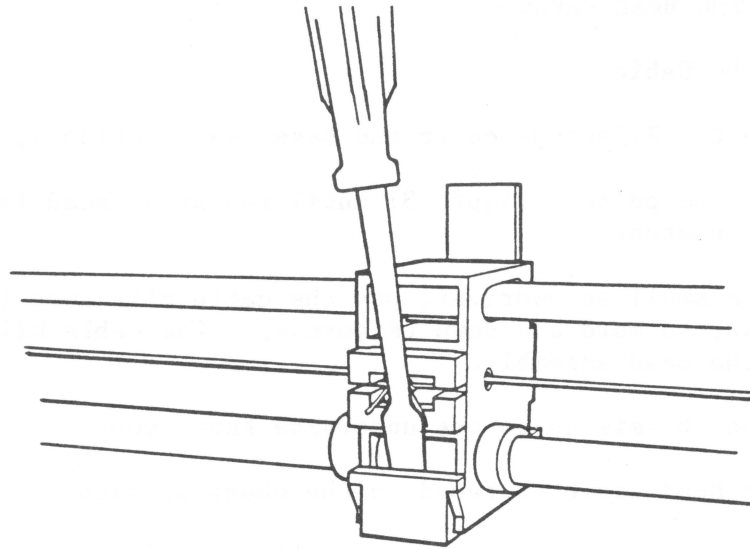

FIGURE 6
2. Pry the cable clip off the print head carrier, forward and down (Fig.6). The cable will fall away from the head assembly.